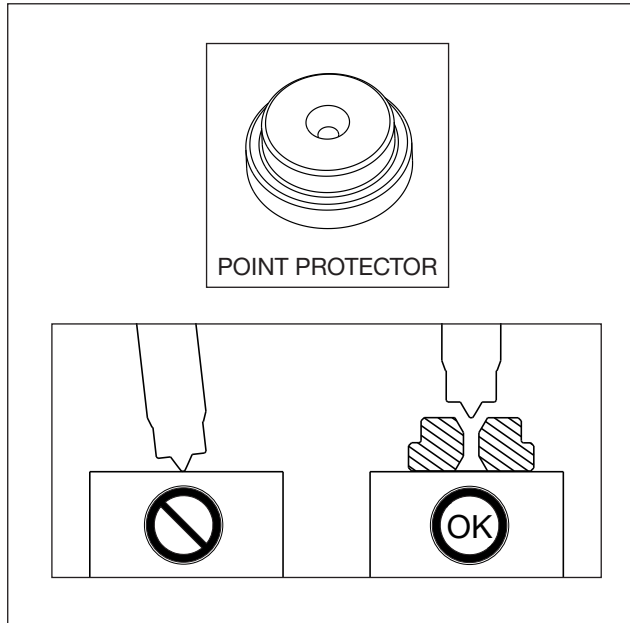

Figure 3, Point Protector
- Model SGM01 SGM04 and SGM07 feature a standard adjusting rod, with a tempered non-retractable point. These models **MUST** be used with a point protector if the shaft end does not contain a drilled center hole. See Figure 3.